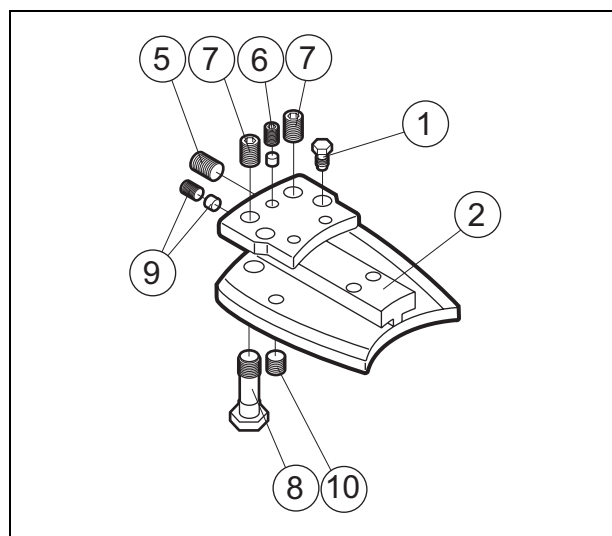

Fig. 41 Bar holder
4. Loosen the guide screws (1) with an 11 mm wrench until the bar holder (2) can be removed from the tensioning device (3). *See Fig. 41.*